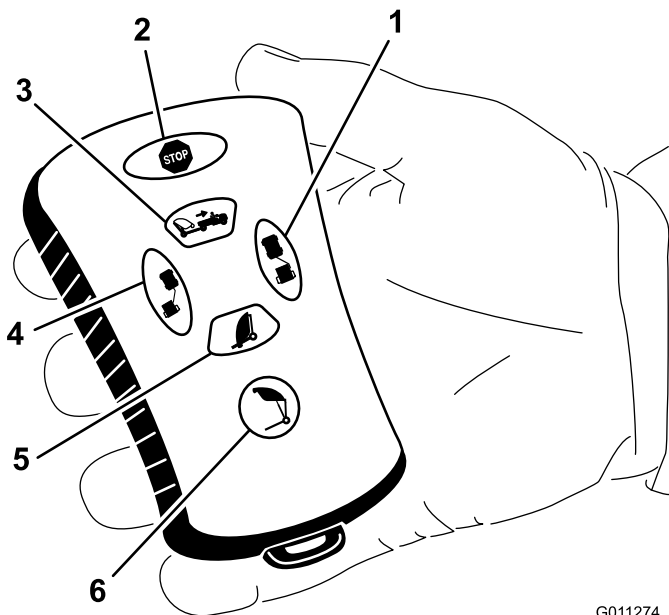

Figure 16
- Press the hopper dump button (Figure 16).
- Then press the off-set left button (Figure 16).
- Then press the off-set right button (Figure 16).
- Then press and hold the hopper dump button (Figure 16).
To lower the hopper, press the sweeper down button (Figure 16). The hopper can be lowered when it is at any of the following positions:
To off-set the sweeper to the left, press and hold the off-set left button (Figure 16). Releasing the button will stop the movement to the left.
To raise the hopper, press and hold the sweeper up button until the hopper reaches the desired height or stops at the pre-defined height (Figure 16).
To off-set the sweeper to the right, press and hold the off-set right button (Figure 16). Releasing the button will stop the movement to the right.